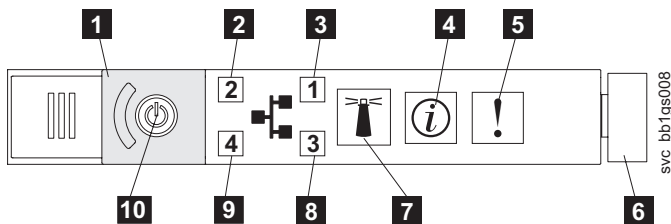

Figure 93. SAN Volume Controller 2145-CG8 or 2145-CF8 operator-information panel
1. Is the Error LED, shown in Figure 93, on the SAN Volume Controller 2145-CF8 operator-information panel on or flashing?